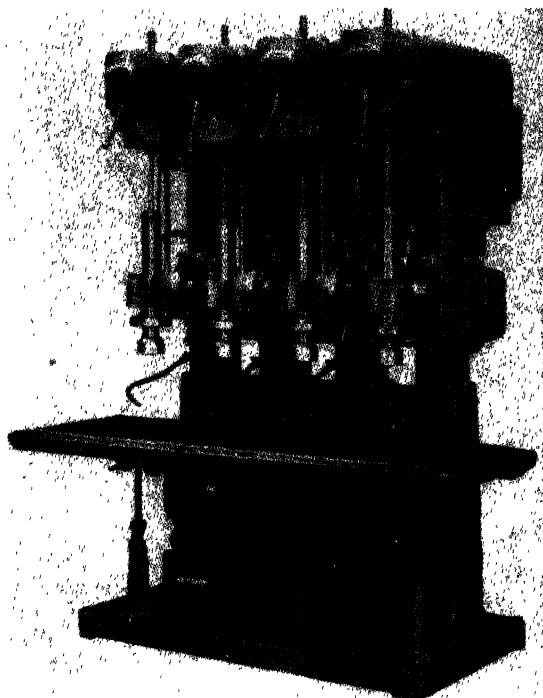

Fig. 7-7. A four-spindle gang drill press. (*The Cincinnati Bickford Tool Company*)
**The Gang Drill.** This is a collection in one machine (Fig. 7-7) of the essential speed and feed units of from two to eight single drill presses mounted on one base and provided usually with one verti-